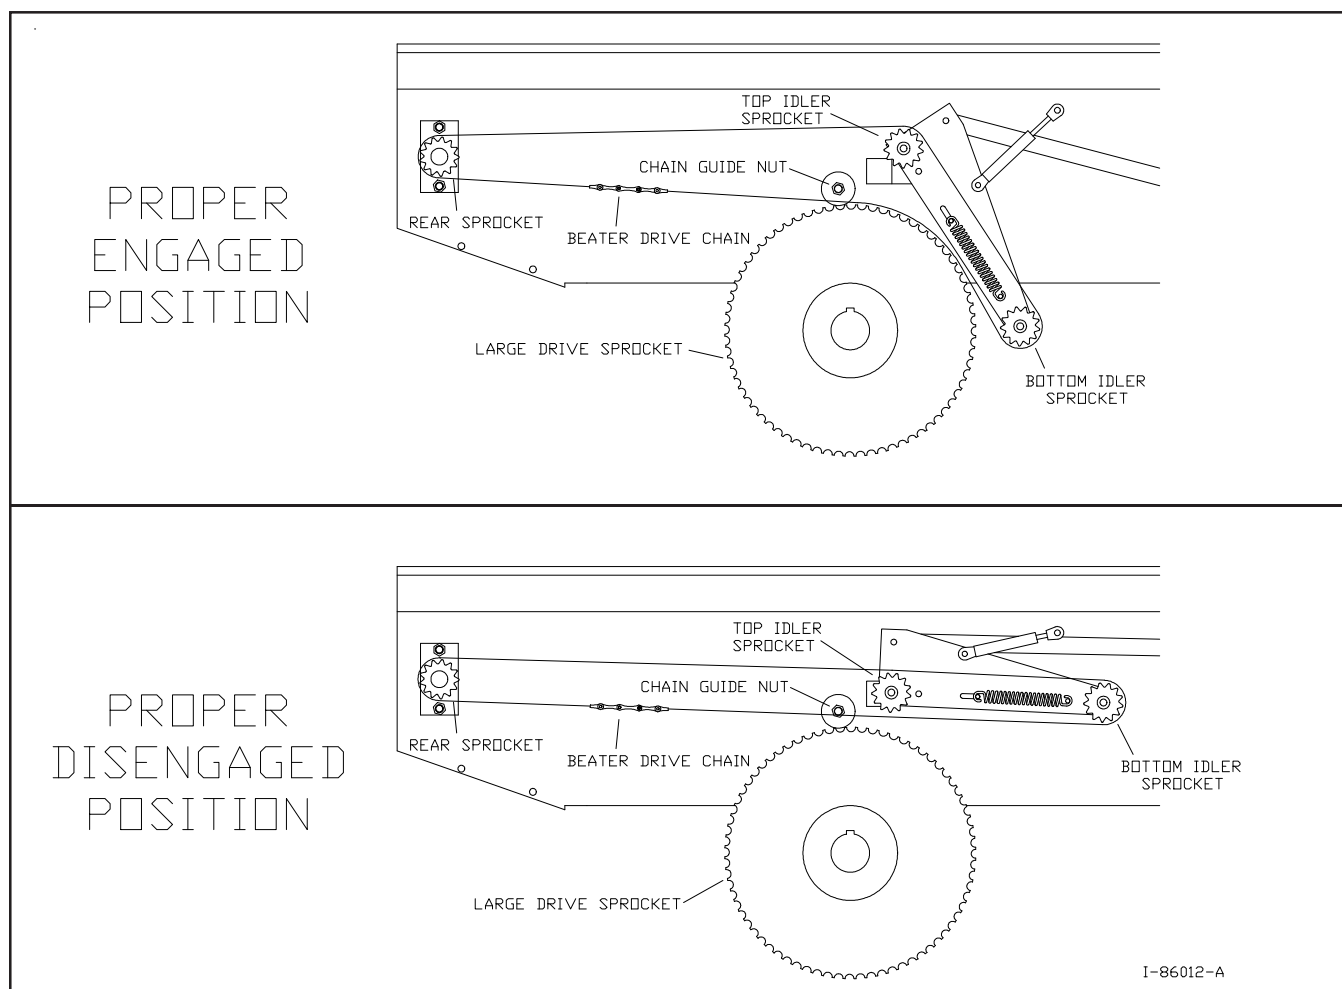

Figure 4C - Beater Drive Chain Installed in the Proper Position
- Apply chain lube once a month (or as needed) to the drive chains (shown in Figure 4C); use vegetable oil or a common spray lube for chains.
3. Remove the right safety shield by removing the three (3) bolts, washers, and nuts along the top of the shield.
5. Refer to Figure 4C. Loosen the chain guide nut to allow re-positioning of the beater drive chain.
6. As shown in Figure 4C, re-install the chain around the small rear sprocket.
10. Verify that the chain is positioned properly over and around all sprockets as shown in Figure 4C.
12. At the front of the spreader, push down on the right lever to disengage the beater drive. Verify the positioning of the beater drive chain according to the lower portion of Figure 4C.